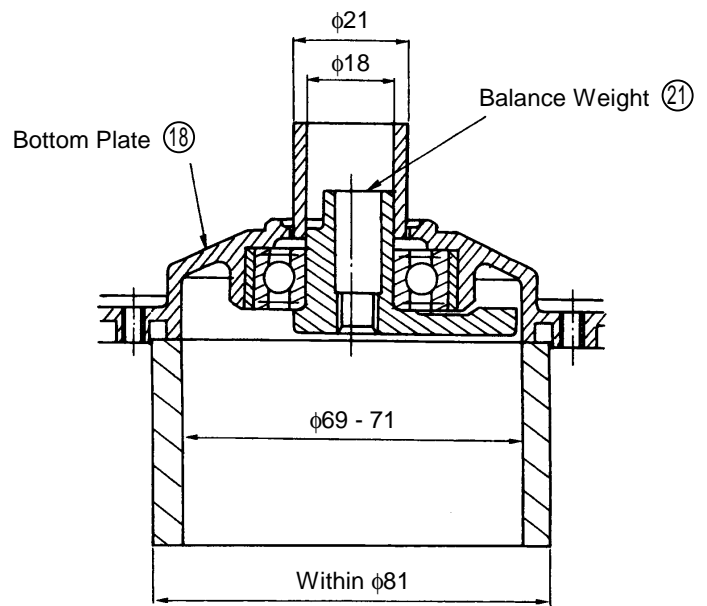

Fig. 7
- (5) Remove the Balance Weight ⑳:
- A. Following the procedures described in Items A to F in Paragraph (1) (Disassembly of the Armature) above, remove the Bottom Plate ⑱.
- B. As illustrated in Fig. 7, support the Bottom Plate ⑱ with a tubular jig (inner dia. $\phi 69 - \phi 71$ mm, outer dia. $\phi 81$ mm or less), and place a sleeve (inner dia. $\phi 18$ mm, outer dia. $\phi 21$ mm) on the Felt ㉑ mounted above the 6203DDCM Ball Bearing ㉒. Then press down on the sleeve with a hand press to remove the Balance Weight ㉓ together with the 6203DDCM Ball Bearing ㉒ and the Felt ㉑.